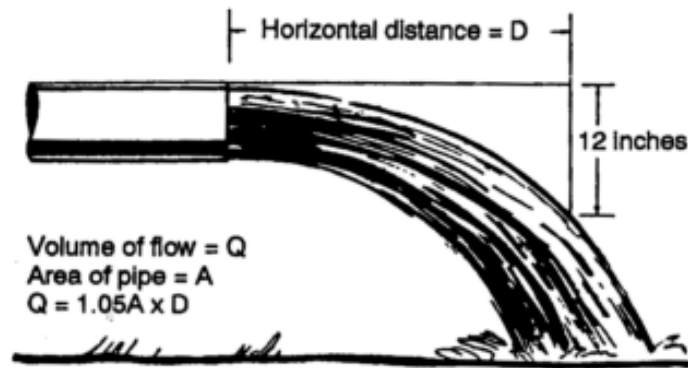

Figure 8-6. Open-pipe-flow measurement method
d. *Open-Pipe Method.* With this method, the pipe is fully open and you measure the distance the water stream travels parallel to the pipe at a 12-inch vertical drop (Figure 8-6). Use the following procedure: